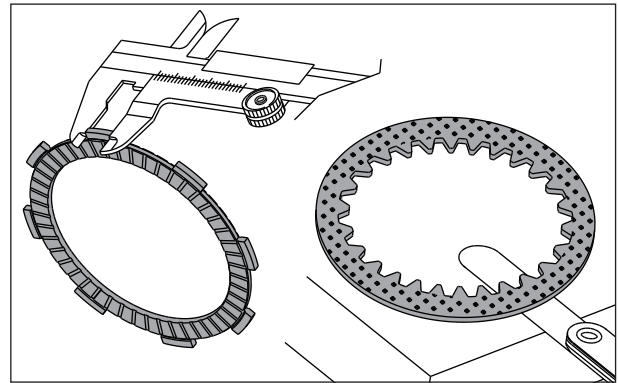

Fig. 2.65
- But as a precaution measure the clutch drive and driven plates must be inspected and if required replaced at every 21000 km for the better performance of the vehicle. (Fig. 2.65)